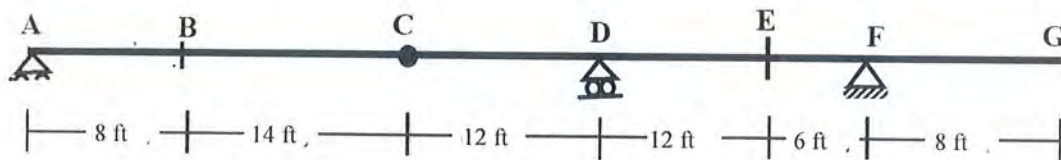

Fig.1
1. (a) The beam shown in **Fig.1**, draw influence line for (i) Reaction at **F**, (ii) Shear just left of **D**, and (iii) Bending moment at **E** [8]
(b) Calculate the maximum value (both positive and negative) of moment at **E** of the beam shown in **Fig.1** for the combination of [6]